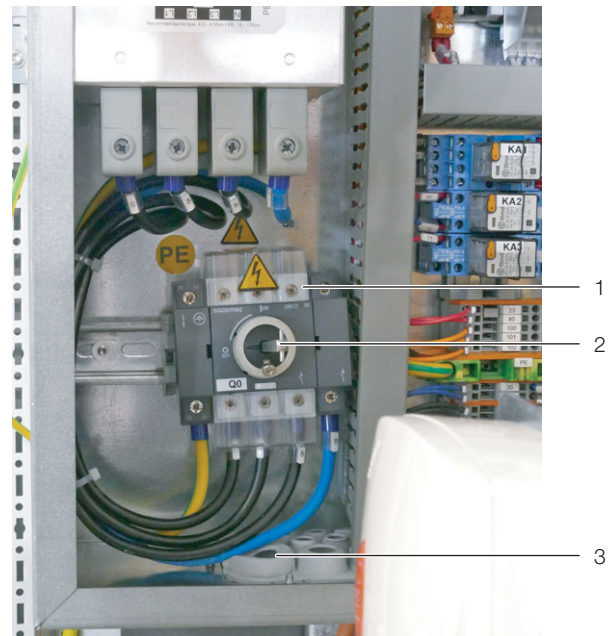

Fig. 25: Opened electronics box
The cable is inserted into the electronics box from below (fig. 25, item 3). Inside the electronics box, it is connected to the correspondingly labelled terminals on the master switch (PE, L1, L2, L3, N).
- Trim the neutral conductor (N) and the three phase conductors (L1, L2, and L3) to a length of approximately 35 mm. Leave the length of the PE conductor at approximately 45 mm.